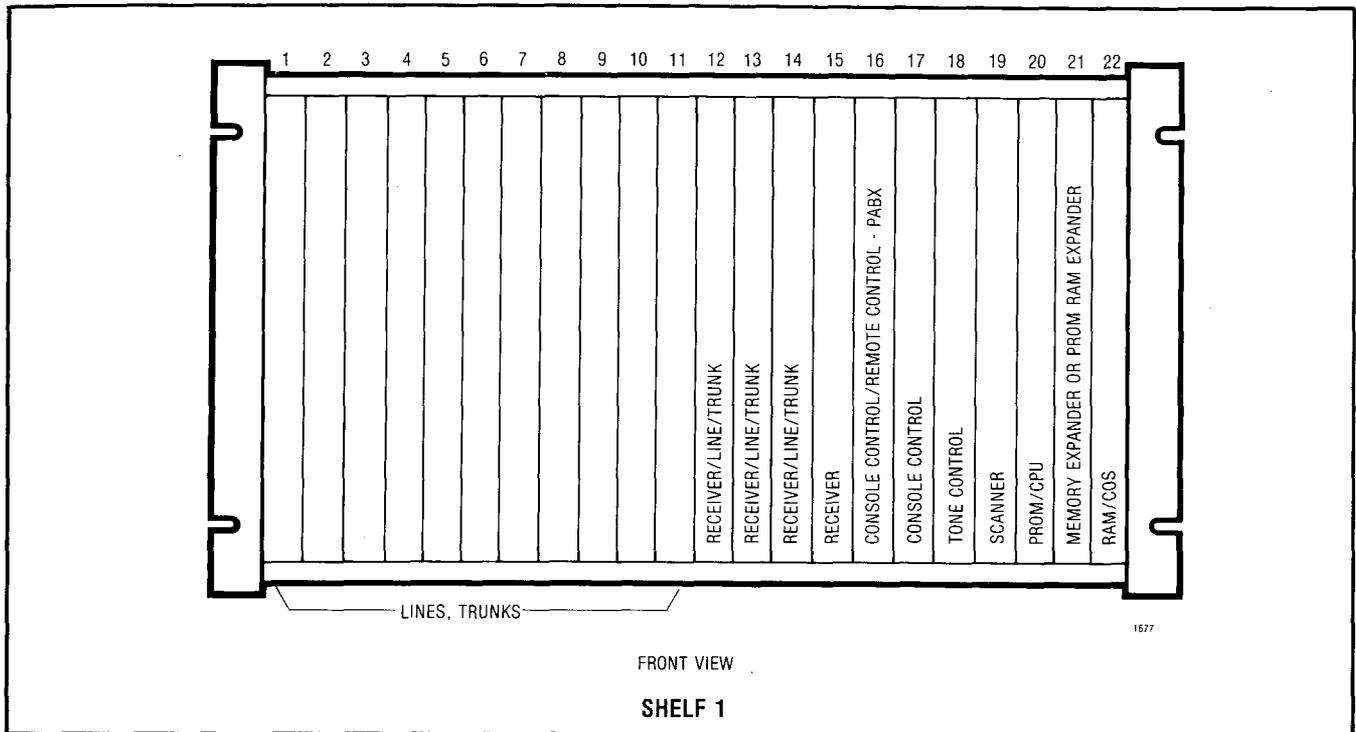

Fig. 2-1 Equipment Shelf
2.02 Card Shelf: Fig. 2-1 illustrates the card locations in the equipment shelf or shelves. A visual display of all cards is shown in Fig. 2-2 and Fig. 2-3. Fuses on the backplane of the shelf are described in paragraph 2.22.